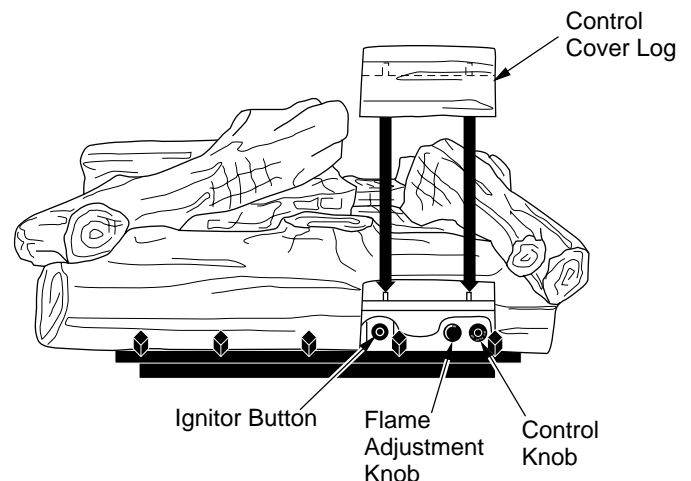

Figure 28 - Control Knob and Ignitor Button Location
3. Remove control cover log (see Figure 28).
5. Wait five (5) minutes to clear out any gas. Then smell for gas, including near the floor. If you smell gas, STOP! Follow "B" in the safety information, column 2 on page 14. If you don't smell gas, go to the next step.
6. Press in and turn control knob counterclockwise  to the PILOT position. Press in control knob for five (5) seconds (see Figure 28).
1. Remove control cover log (see Figure 28, page 15).
1. Remove control cover log (see Figure 28, page 15). Turn control knob clockwise  to the PILOT position. Replace control cover log.